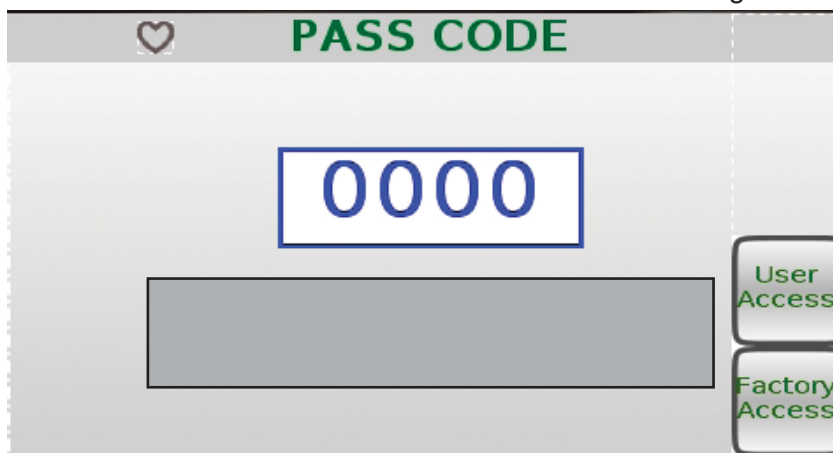

Figure 15
Once you have pressed the Master Settings button, you will be taken to the Pass Code screen (see Figure). In order to access the Master Settings menu screen, you will have to enter a four digit pass code. The four digit pass code is the number zero, plus the 3-digit serial number of your Bark Blower. The serial number is located on the right-front of your Bark Blower on the serial number sticker. To enter the pass code please use the following steps (see Figure 15):
9. Press the button labeled User Access to continue to the Master Settings screen (see Figure 15).